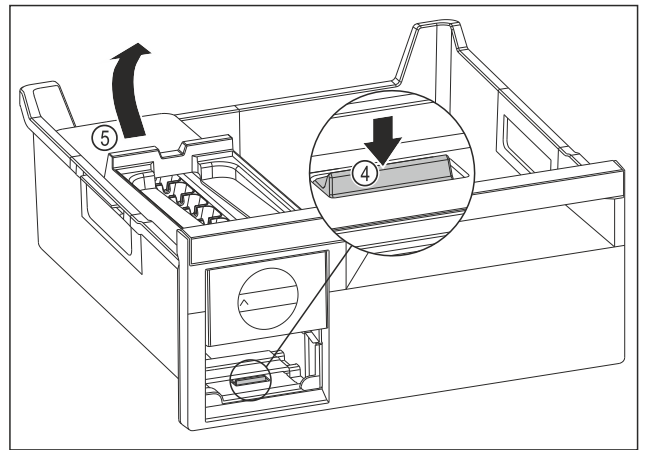

Fig. 77
- ▶ Removing the EasyTwist-Ice body: Use your finger to push the tab Fig. 77 (4) down and use your other hand to lift the EasyTwist-Ice body Fig. 77 (5) from behind at the same time.